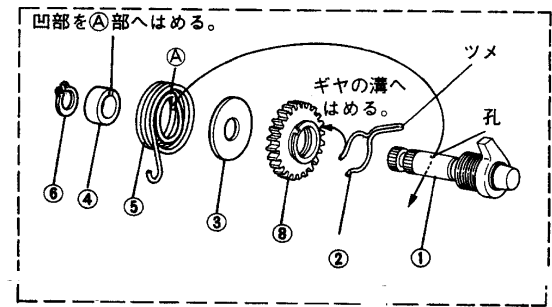

Figure 1
1. Put together the subassembly as shown in figure 1. The horseshoe clip (2) goes on the starter gear (8) so that the extension points away from the gear. The tip of tension spring (5) fits into hole on kick axle (1). The spacer (4) has one side with a single dimple which covers the tip of tension spring (5) as it enters the kick axle (1).